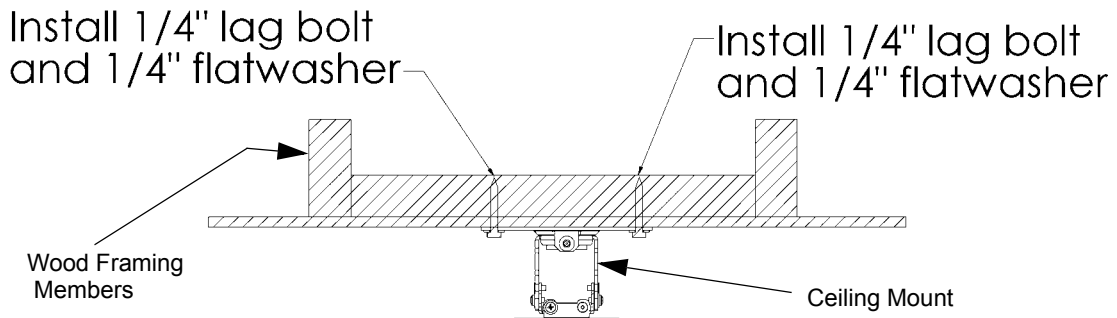

Figure 6. Example Using Lag Bolts or Machine Bolts
- Use two 1/4" lag screws and two 1/4" flat washers for single stud mounting through two larger round holes (see Figure 6).
- If the area is accessible above the wood framing member, use four 1/4" diameter machine bolts, four nuts, and four washers (see Figure 6).
1. Secure the ceiling bracket to the wood framing member (see Figure 6).